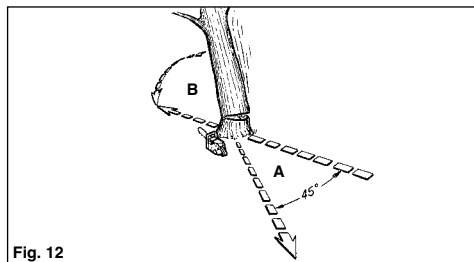

Fig. 12
⚠WARNING: A retreat path (A) should be planned and cleared as necessary before cuts are started. The retreat path should extend back and diagonally to the rear of the expected line of fall, as illustrated in Fig. 12.
⚠WARNING: As the felling cut gets close to the hinge, the tree should begin to fall. When tree begins to fall, remove saw from cut, stop engine, put chain saw down, and leave area along retreat path (Fig. 12).